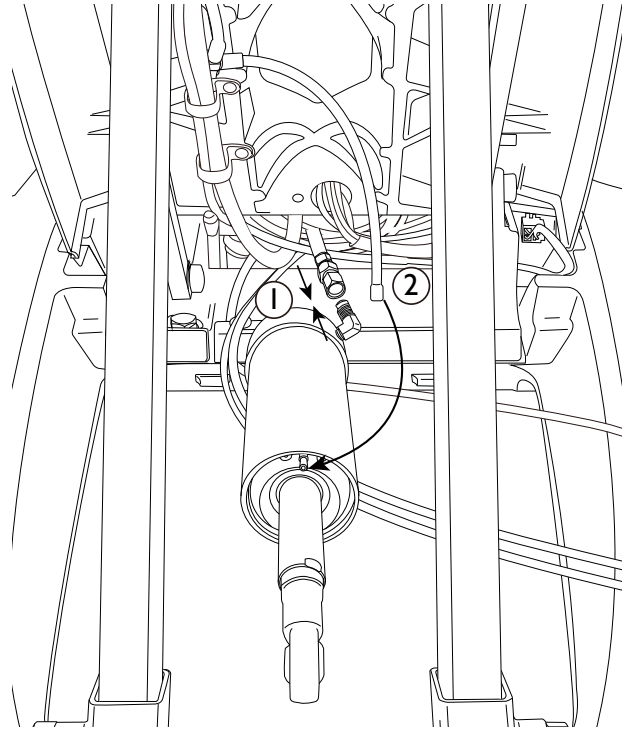

Figure 16. Reconnecting the hydraulic hose and the upper vent line
- 3** Using the provided 0071-I Vent Sleeve, reconnect the hydraulic hose (see Figure 16, item 1) and the upper vent line (item 2). Install the vent sleeve with the semi-transparent side towards the barb.